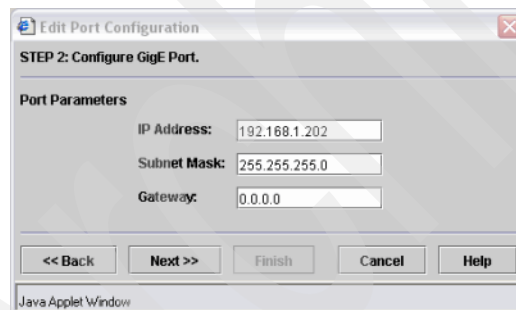

Figure 6-48 Setting an IP Address on the port for FCIP traffic
4. The second configuration step is to give this port an IP address, as shown in Figure 6-48. Because FCIP is encapsulating FC traffic within standard IP packets, an IP address is needed for the source and destination. Because this will be a dedicated point-to-point connection, we do not need a gateway address and are free to choose any IP range we want.